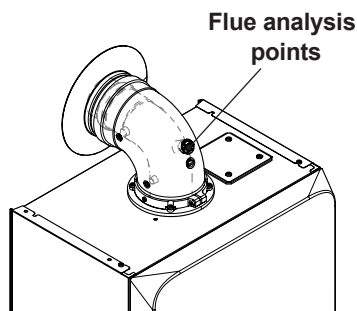

Fig. 10.15
It is compulsory to conduct a combustion analysis. Remove the plug as indicated in Fig. 10.15 and carry out combustion analysis check and adjustment if necessary as described in the section "Gas valve - Adjustment - Chimney Sweep Mode" of the Service manual.
- Check the combustion of the boiler using the outlets located on the flue tubes (Fig. 10.15) and compare the data measured with that following.